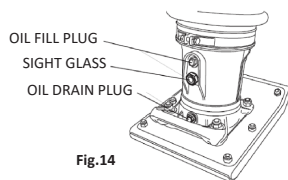

Fig.14
- Drain oil reservoir on foot housing (Figure 14). Refill with approximately 1000cc of MOBIL ISO VG-46 or other oil with same standard. Oil should be midway in sight glass. Break in oil should be changed after first 50 hours.